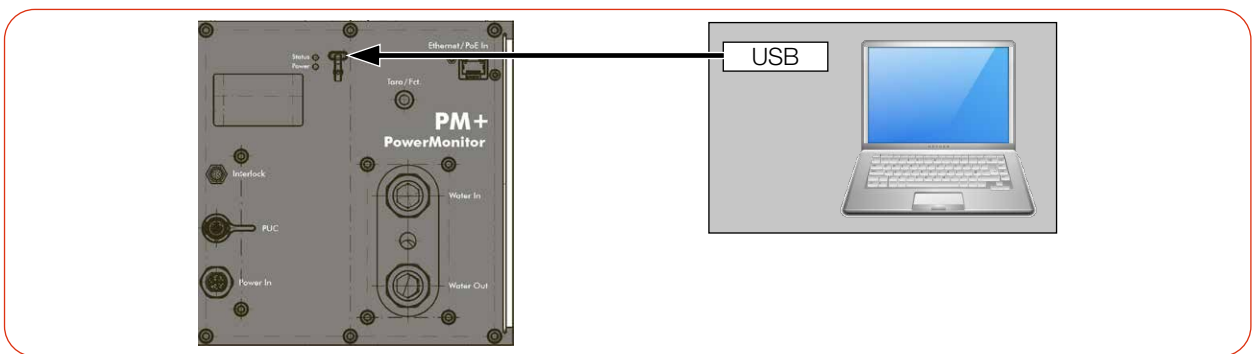

Fig. 8.3: Power supply via USB, data transfer via USB
- ▶ Connect the cable according to Fig. 8.3 on page 27.